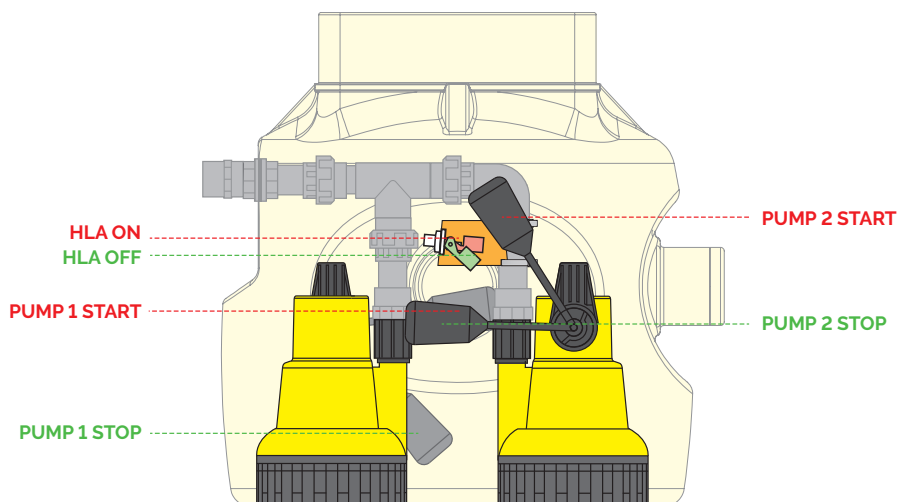

Figure 7. Mini float switch on and off positions.
1. The mini float switch should be positioned between the activation points of the two pumps, as shown in Figure 7. This will cause the alarm to trigger if Pump 1 has failed, before Pump 2 empties the chamber. This periodic triggering is a useful indicator that there is a fault in the pumping station.